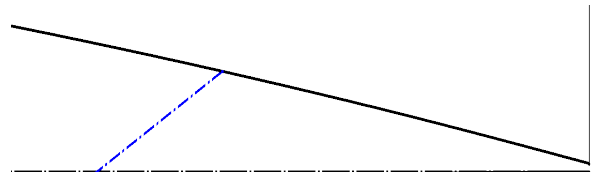

Fig. 30
Step 17. Sketch **construction line at angle** across **trailing edge**, Fig. 30.